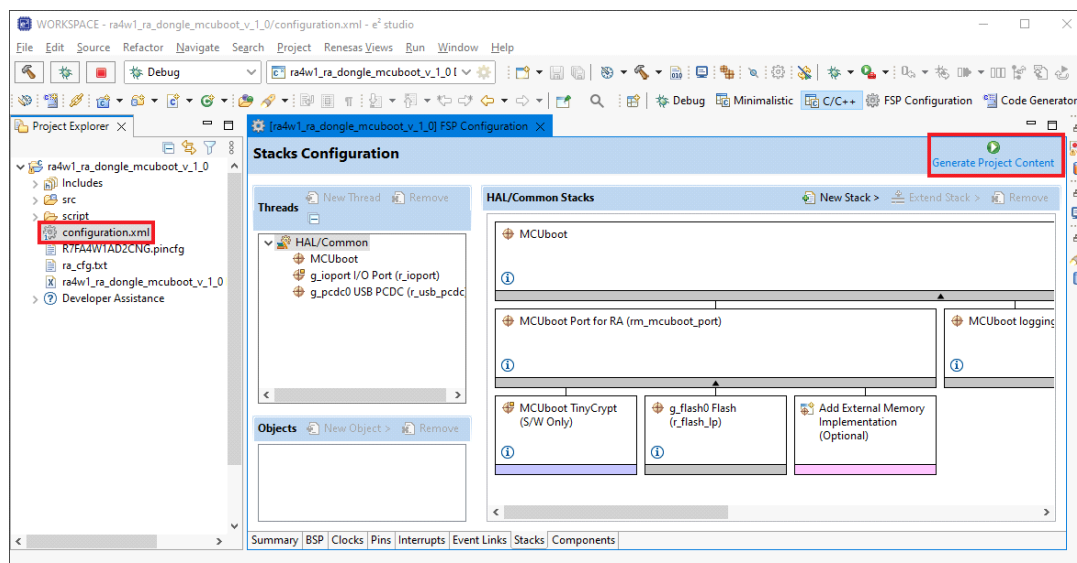

Figure 19. Generation of Hardware Specific Project Files
4. The project is now imported into the e² studio workspace. Double-click on **configuration.xml** to open the FSP Configurator and click the **Generate Project Content** button to generate the hardware specific project files that are required to run the project on the selected hardware (Figure 19).